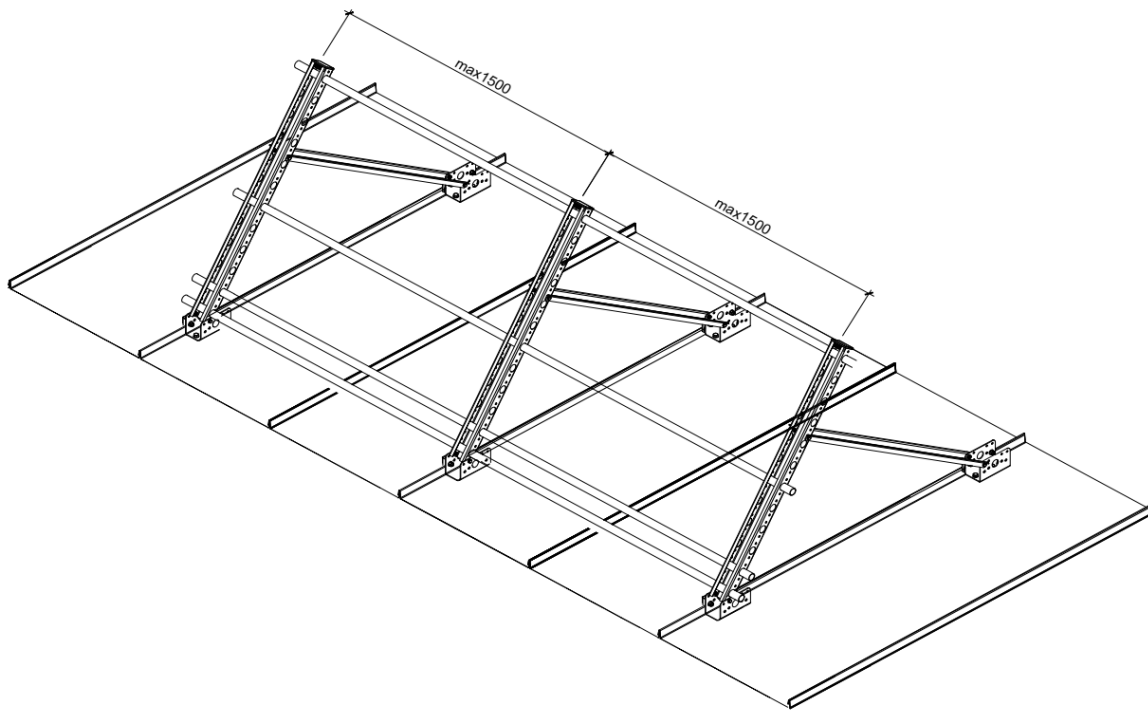

Figure 1.
- Place the tubes in the designated locations. The maximum distance between struts is 1500 mm (Figure 1).